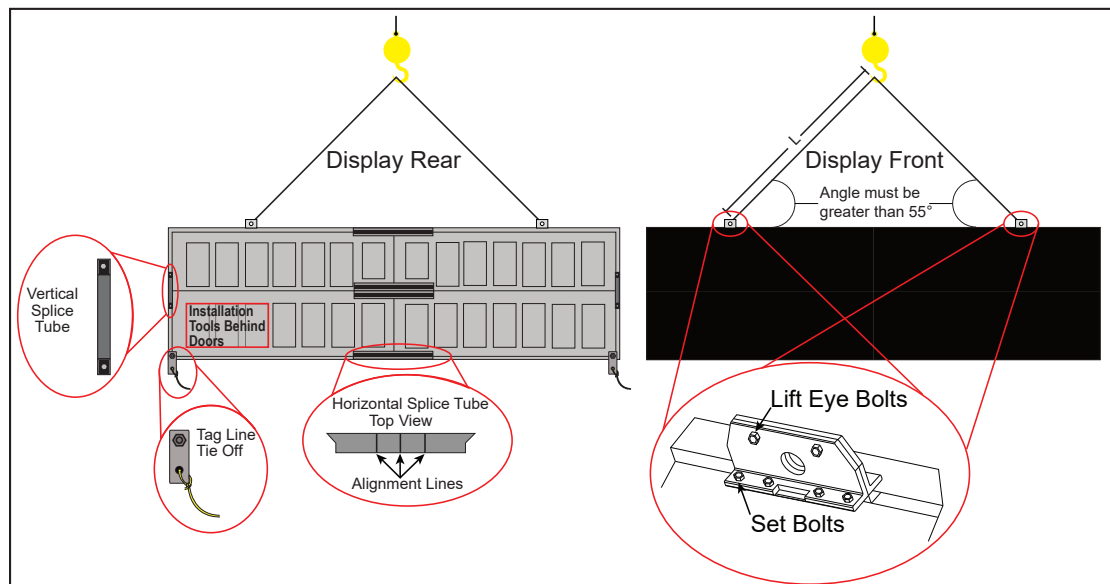

Figure 3: Display Lifting
4. Verify that the lift eyes are installed and the lift eye bolts and set bolts are in place. Refer to **Figure 3**. Lift eye spacing is set at Daktronics and should not be moved without the Project Manager's permission.
5. Attach lift lines from the crane to the lift eyes. Ensure the angle between the top of the display and the lifting strap is greater than 55°. Refer to **Figure 3** and the following table for recommended strap lengths for common display sizes:
7. Tie tag lines to the provided tag line tie off on the bottom corners of the display. Refer to **Figure 3**.
12. If the display is two sections wide and has a vertical splice, either from the factory or on site, locate the horizontal splice tube at the splice location. Refer to **Figure 3**.